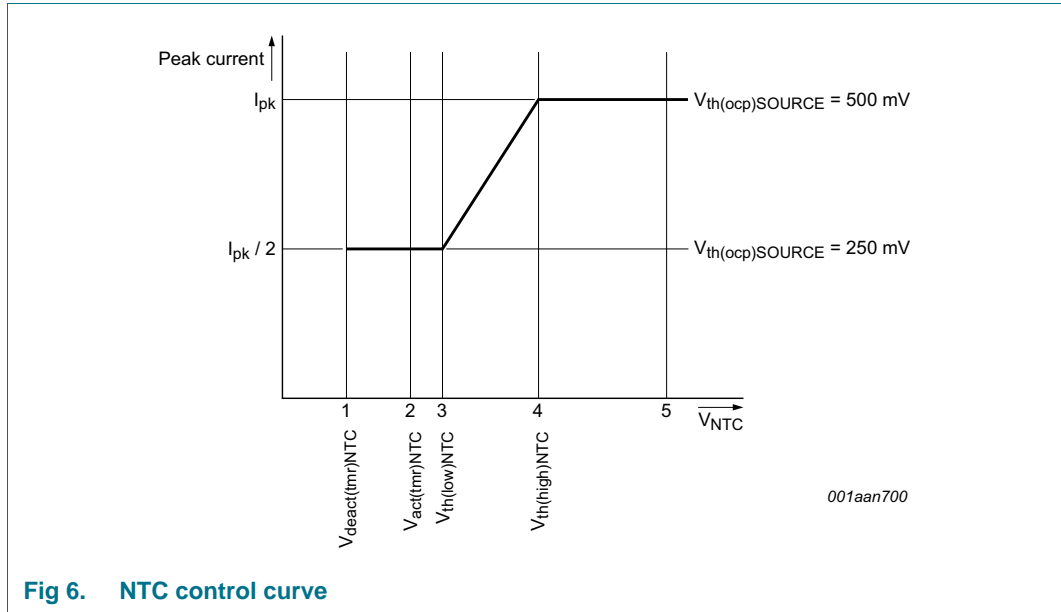

Fig 6. NTC control curve
The NTC pin can be used as a control method for LED thermal protection. Alternatively, the pin can be used as an input to disable/enable light output using a digital signal (PWM current regulation). The pin has an internal current source that generates the $I_{offset(NTC)}$ current. To monitor the LED temperature, an NTC resistor can be connected directly to the NTC pin. Depending on the resistance value and the corresponding voltage on the NTC pin, the converter reacts as shown in Figure 6.
When the voltage on the NTC pin exceeds $V_{th(high)NTC}$ (see Figure 6 \(4\)), the converter delivers nominal output current. When the voltage is lower than this level, the peak current is gradually reduced until $V_{th(low)NTC}$ is reached (see Figure 6 \(3\)). The peak current is now half the peak current of nominal operation. When $V_{act(tmr)NTC}$ is passed (see Figure 6 \(2\)), a timer starts to run to distinguish between the following situations:
- If the low-level $V_{deact(tmr)NTC}$ is not reached within time $t_{to(deact)NTC}$ (see Figure 6 \(1\)), LED overtemperature is detected. The IC stops switching and attempts to restart from the HV pin voltage. Restart takes place when the voltage on the NTC pin is higher than $V_{th(low)NTC}$ (see Figure 6 \(4\)). It is assumed that the reduction in peak current does not result in a lower NTC temperature and LED OTP is activated.
- If the low-level $V_{deact(tmr)NTC}$ is reached within the time $t_{to(deact)NTC}$ (see Figure 6 \(1\)), it is assumed that the pin is pulled down externally. The internal current source $I_{offset(NTC)}$ is switched off in this mode. The restart function is not triggered. Instead, the output current is reduced to zero. PWM current regulation can be implemented this way. The output current rises again when the voltage applied on the NTC pin is higher than $V_{th(low)NTC}$.